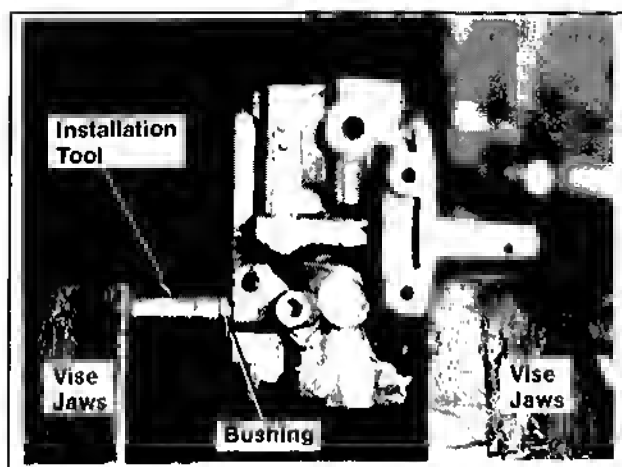

Figure 6A-11. Installing Throttle Shaft Bushings.
3. Coat the outside surface of throttle shaft bushing with Loctite® from kit. Slip bushing over shaft. Using installation tool from kit and vise, press bushing into counterbore until it bottoms in carburetor body. Refer to Figure 6A-11.